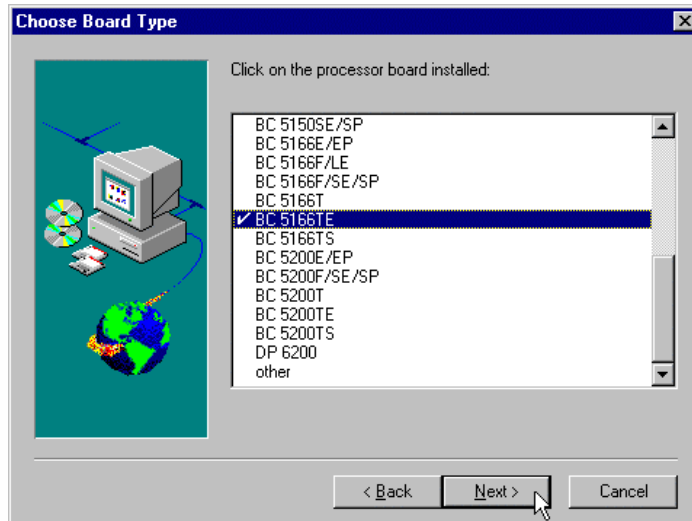

Figure 39 – Choose Board Type dialog box
11. Select the type of Cubix computer board on which the **GLOBALVISION AGENT** is being installed in the **CHOOSE BOARD TYPE** dialog box. This may be indicated on the board, on the invoice, or in supporting documentation for the board. Click on the appropriate board description. Click **NEXT** to continue installation. See Figure 39.